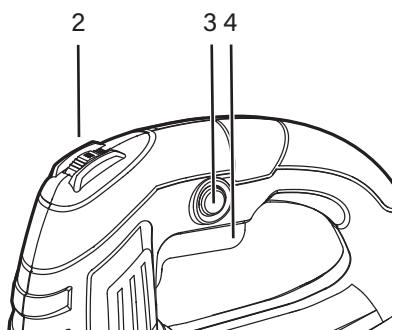

FIG.3
## Switch on and off (See Fig. 3)
## Variable speed (See Fig. 3)
1. By turning the speed adjustment dial (2) forward or backward, you can get the variable speed.
3. Position "1" denotes the lowest speed. Position "6" denotes the highest speed. (See Fig. 3)